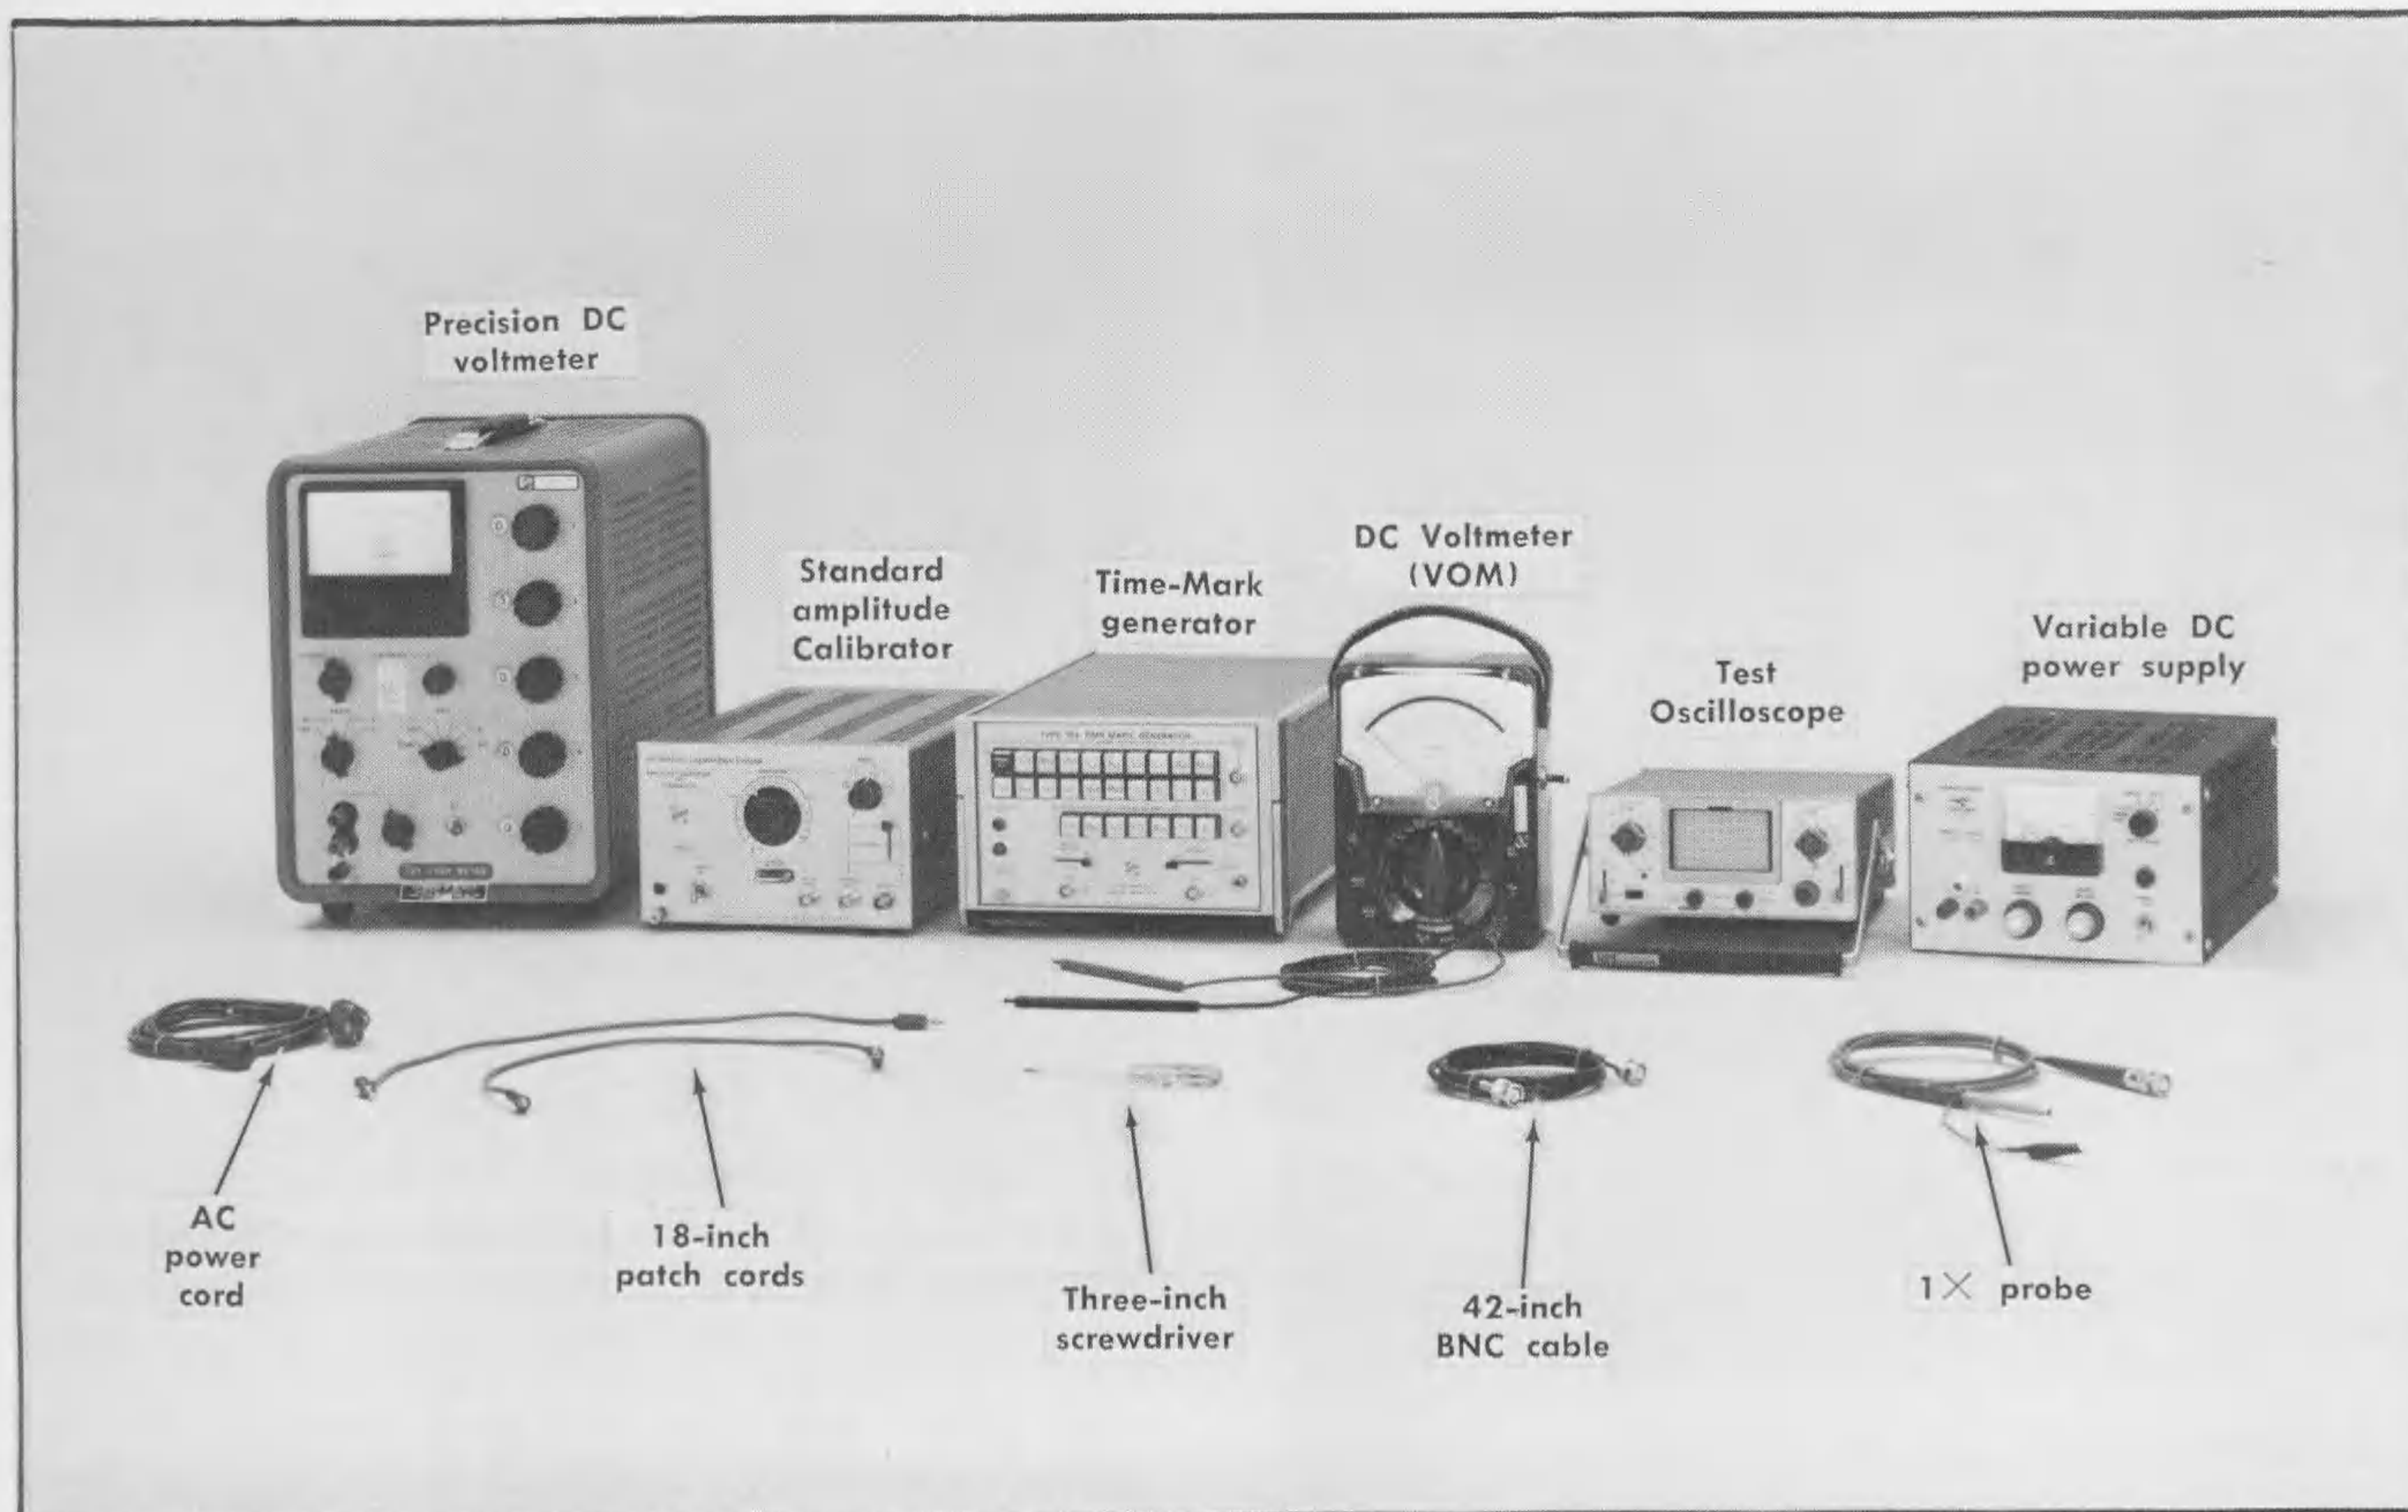

Fig. 5-1. Test equipment required for steps 1 through 20.
a. Test equipment required for steps 1 through 20 is shown in Fig. 5-1.